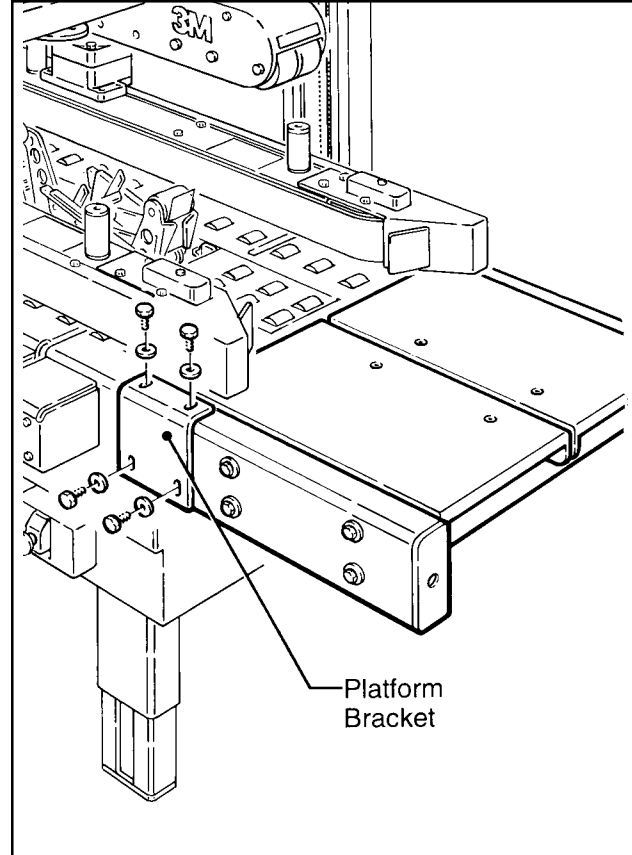

Figure 2 – Platform Bracket Installation
6. Refer to Figure 2. Set the platform bracket over the joint between the platform and the case sealer frame on each side and secure them with four M8 x 16 hex head screws and washers.